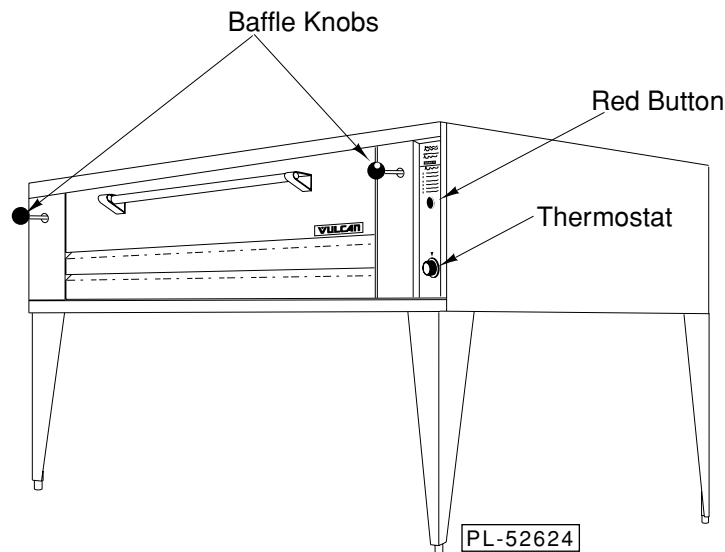

Fig. 7
CONTROLS (Fig. 7)
4. Depress the red button (see Fig. 7) and ignite the pilot. Hold red button in approximately 30-45 seconds or until pilot remains on.